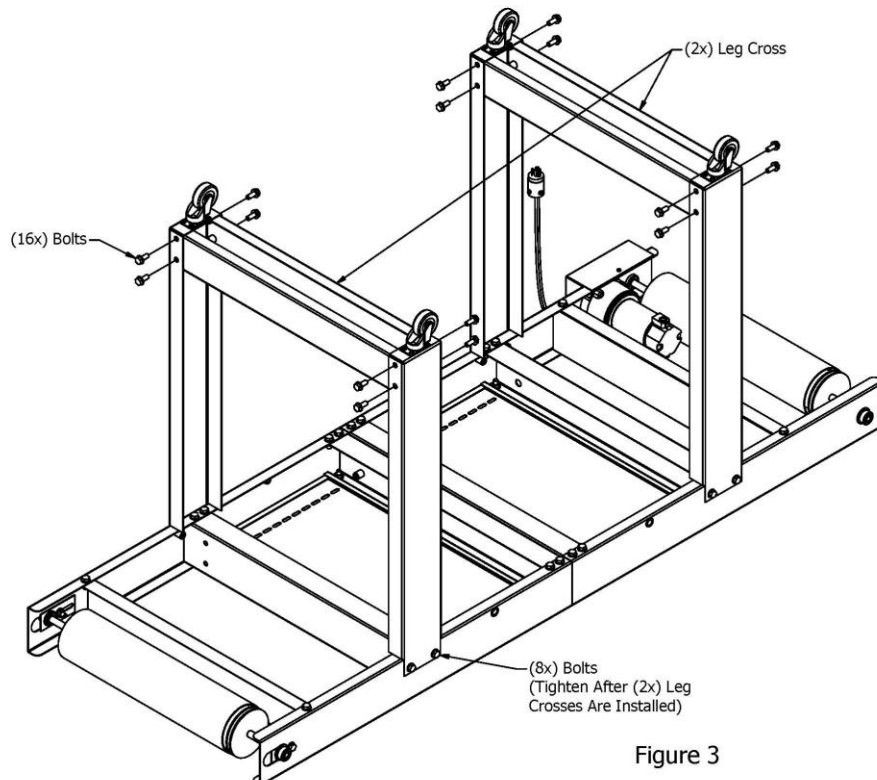

Figure 3
6. Install (2x) leg crosses to legs with (16x) bolts. (See Figure 3)